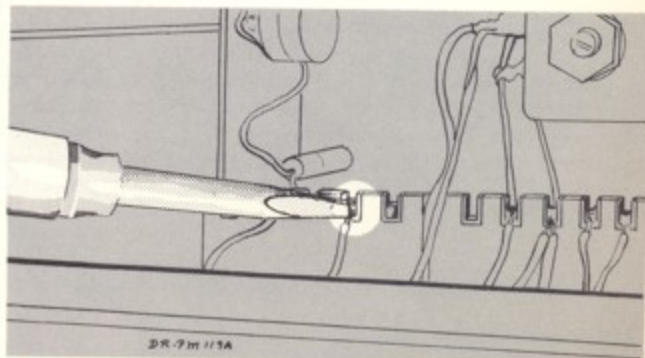

Fig. 5-2. Method of applying heat to ceramic strip.
4. Apply one corner of the tip to the notch where you wish to solder (see Fig. 5-2).